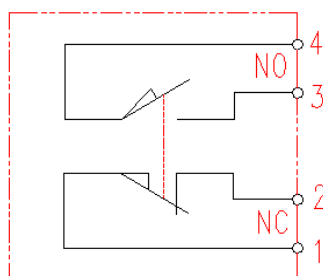

Fig. 9: Wiring mechanical limit switch
Refer to fig 9: Open the brake by thruster and check the air gap between the brake lining and brake disc. If the air gap is not equal, loose locknut (Pos. 3) and turn the adjusting nut (Pos. 2) until the air gap on both sides is equal. Tighten the lock-nut (2) when the air gap is fine.
Mechanical limit switches: Inner contactors of the mechanical limit switch are shown in fig.9. Thread of cable entry is M20X1.5, operating current at utilization category AC-15: 2A/250V, at utilization category DC-12: 2A/48V. Section area of soft cable should be at least 2×0.75mm².